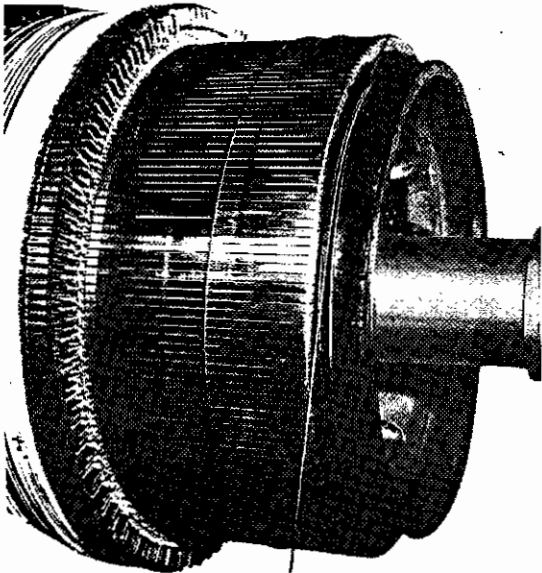
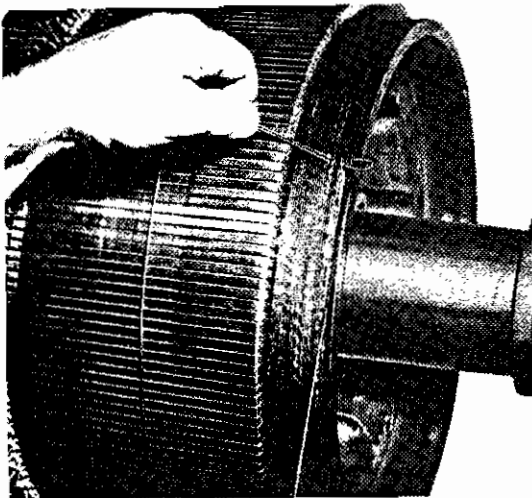

Fig. 47 - Securing Start of String Band
Fig. 48 - Securing Finish of String Band
4. Wind in one layer of glass cord over epoxy resin coating. Starting next to the commutator, secure one end of cord by overlapping one turn as shown in Fig. 47. Keep glass cord pulled tightly and keep turns as close together as possible. When there are approximately four turns left to make, form a loop of a short piece of the cord and wind under the remaining turns, leaving the loop and loose ends exposed as shown in Fig. 48.